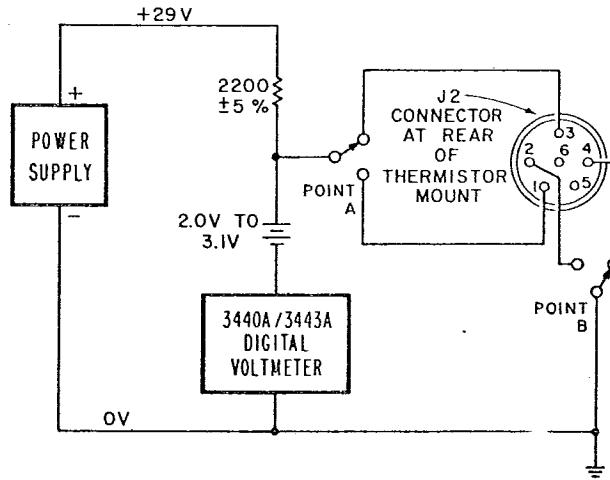

Figure 8. Thermistor Resistive Match Test
- a. Replace the RF unit, filter and directional detector in the 12 GHz test setup with the instruments shown in Figure 8.
- a. Connect the equipment as shown in Figure 8. Set instrument controls as follows: